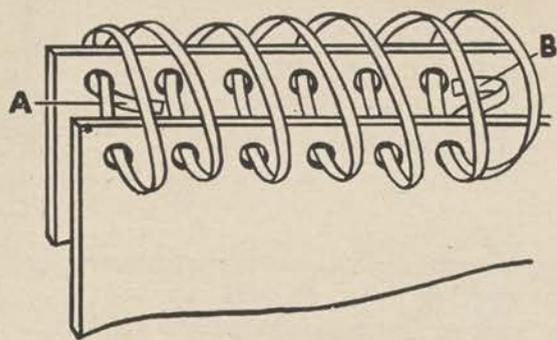

Figure 37.
b. The correct way to do this depends on whether the lacing is to go all the way around the article ending back at the starting point or whether it is to go only from one part of the edge to another. For partial lacing, the end (A) is skived and cemented between the two pieces of leather (fig. 37). The illustration shows how the lacing is done, starting